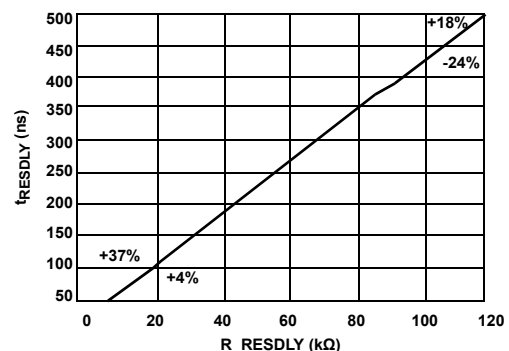

FIGURE 10.  $R_{RESLDLY}$  vs  $RESLDLY$
- Figure 10 illustrates the relationship of the value of the resistor ( $R_{RESLDLY}$ ) and the resonant delay ( $t_{RESLDLY}$ ). The percentages in the figure are the tolerances at the two end points of the curve.